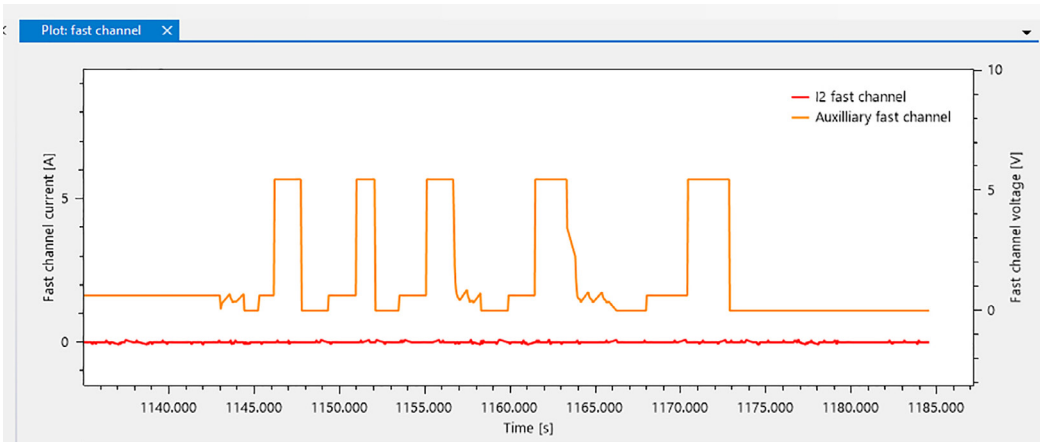

Figure 48. Fast Channel Plot for Basic Operation Example Showing Alternating AUX Measurements
- a. Alternate between 0, 1, 2, 3 and watch the effect in the Plot: fast channel, Auxiliary fast channel (Figure 48).